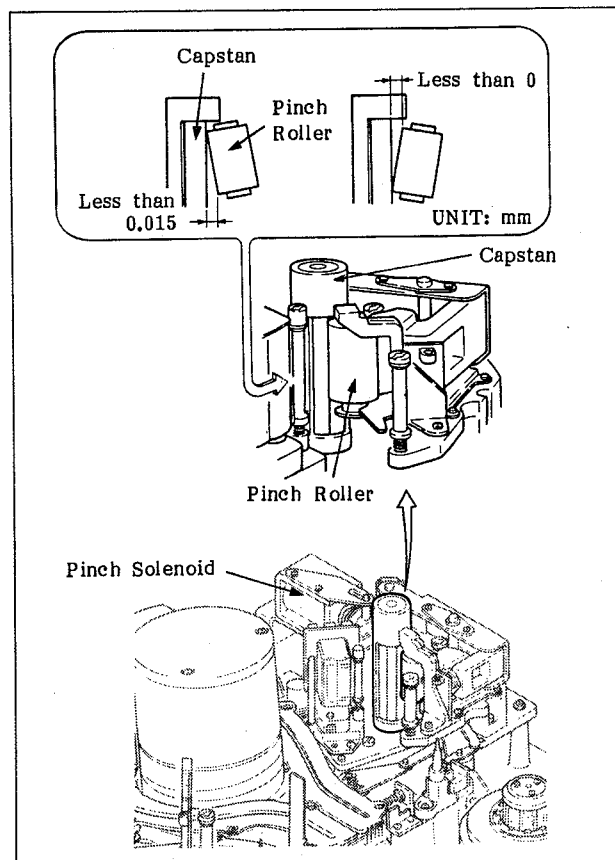
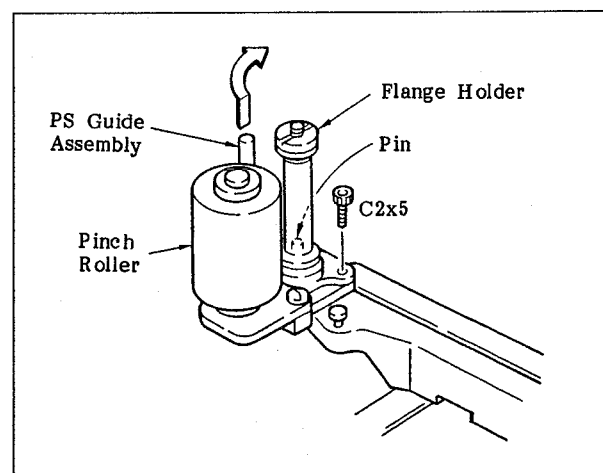

Fig. 6-90 Check the Pinch Roller Zenith
Fig. 6-91 Movement of the PS Guide Assembly
- Press the **F3** (C), **4**, **SET**, **F6** (F), **2**, **SET**, and **<** keys on the control panel in that order to set the machine in the threading status without loading the cassette tape.
- Press the **F6** (F), **3**, and **TEST** keys on the control panel in that order. Then press the **>** keys to push the pinch roller against the capstan once and then to separate them.
- Bring the pinch roller close to the capstan slowly by pushing the pinch solenoid by a hand. Check that the inclination of the pinch roller and the capstan meets the specification shown in Figure 6-90 when the pinch roller starts to rotate. When they do, go to step k. If they do not, make the following adjustments.
- Press the **F6** (F), **2**, **SET** and **>** keys on the control panel in that order to set the T arm in approximately a half-threading condition.
- Remove the set screws (C2x5) that hold the PS guide assembly and move the assembly in the direction of the arrow, as shown in the figure. (Figure 6-91)